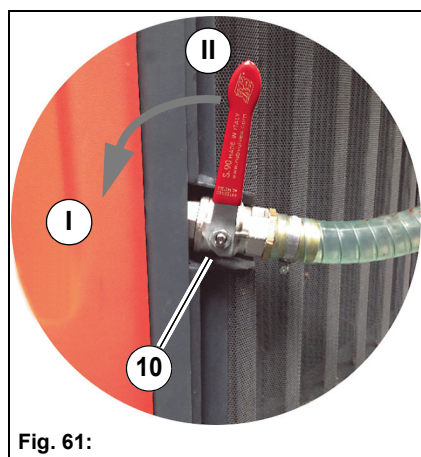

Fig. 61:
- Circulating water supply opened: Ball cock in position **Fig. 61-I**
- Circulating water supply closed: Ball cock in position **Fig. 61-II**